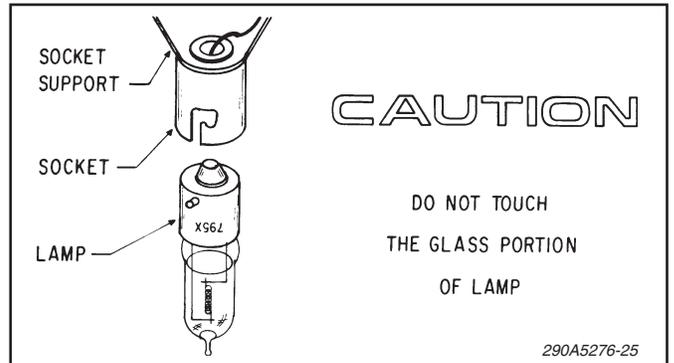

Figure 6-9.
3. To replace the halogen lamp, twist to unlock and then pull the defective lamp out of the socket. Install a new #795X lamp in the socket (see figure 6-9). Refer to paragraph 6-7 for the Federal Signal Part Number.